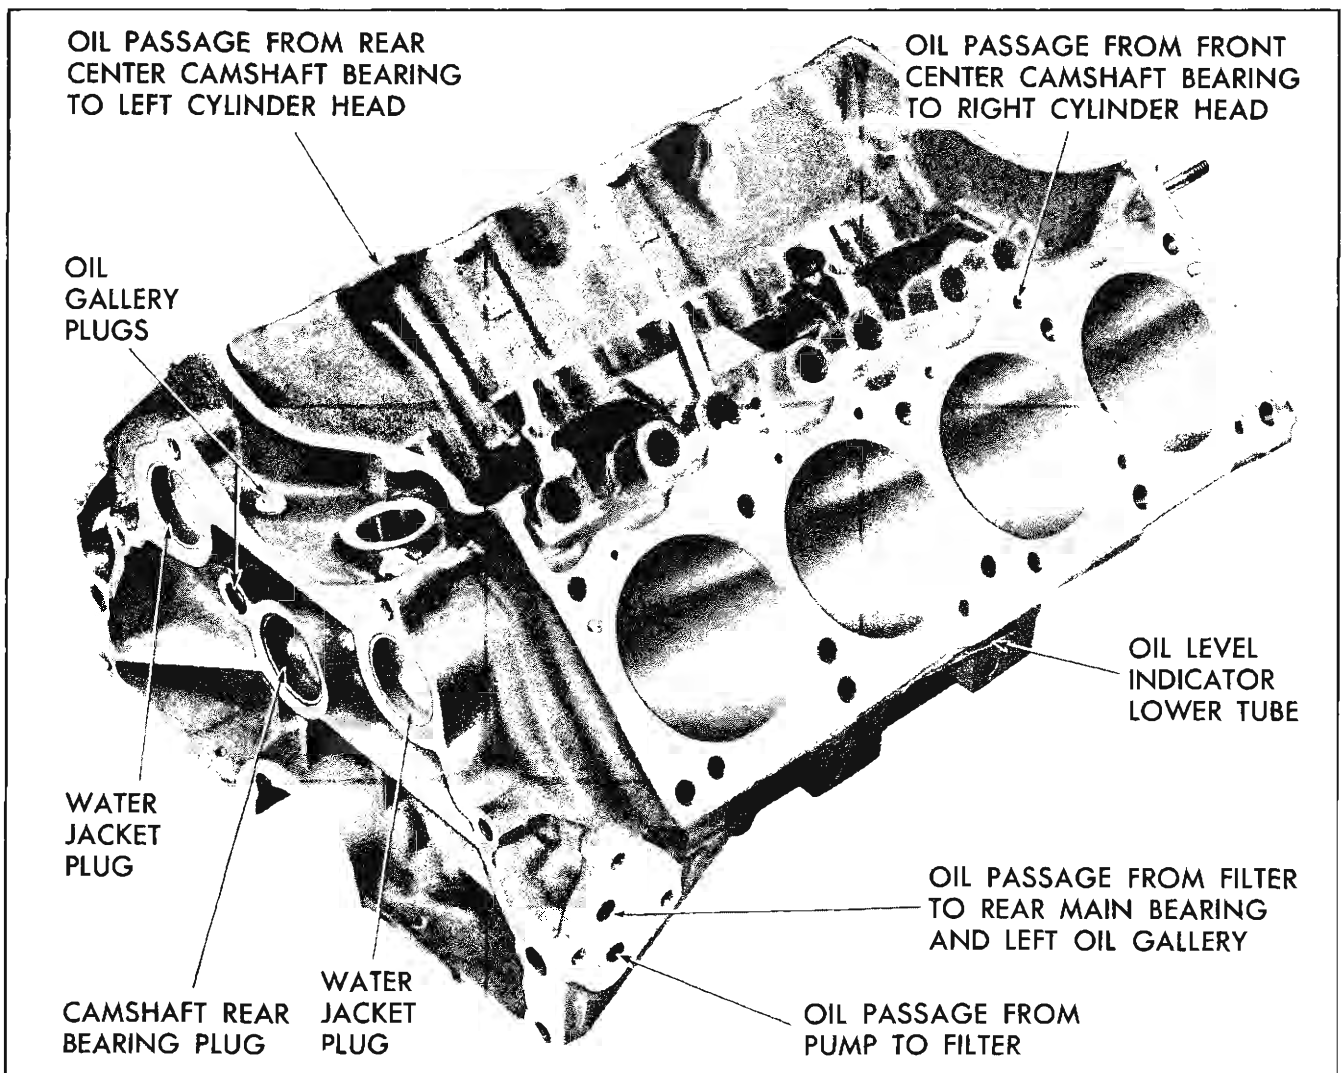

Fig. 6-73 Cylinder Block—View from Right Rear—V-8 Engine
- b. Check passage from filter outlet to rear main bearing by inserting wire in oil filter outlet passage and using pen light to see that wire is visible in passage to rear main bearing (Fig. 6-73).